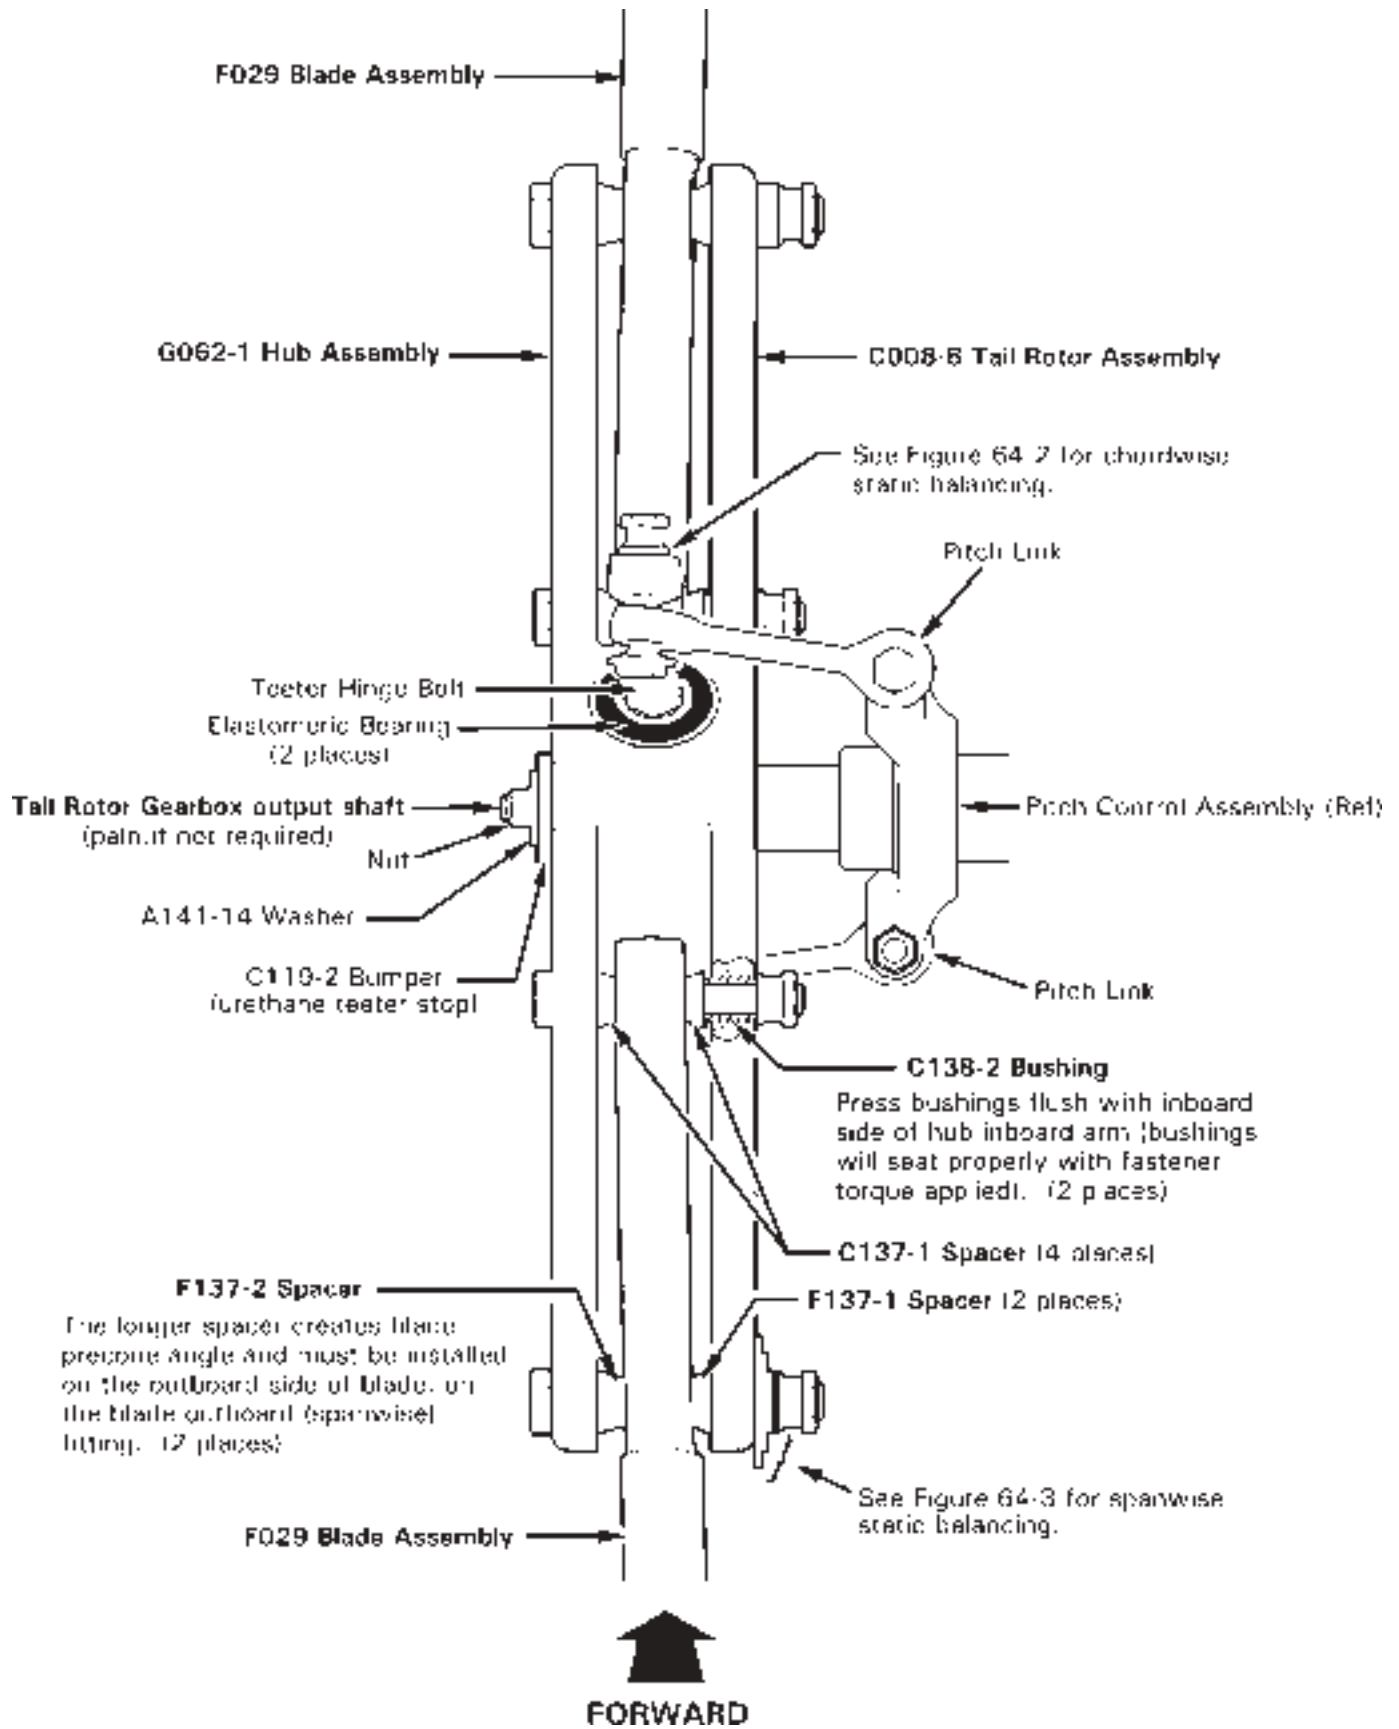

FIGURE 64-1 TAIL ROTOR INSTALLATION
1. Refer to Figure 64-1. Tag each pitch link with corresponding blade serial number for reinstallation. Remove hardware securing pitch links to tail rotor blades, noting hardware removed.
1. Refer to Figure 64-1. Position tail rotor assembly on tail rotor gearbox output shaft. Verify tail rotor is installed for clockwise rotation when viewed from left side of aircraft. Verify blades cone toward tail rotor gearbox.
2. Refer to Figure 64-1. Remove hardware securing F029 blade assemblies to G062-1 hub assembly. Remove blades, spacers, and hardware; do not remove C138-2 bushings unless required.
2. Refer to Figure 64-1. If removed, apply light coat of approved primer per § 20-70 to outer surface of C138-2 bushings; while primer is wet, press bushings flush with inboard side of hub inboard arm (bushings will seat properly with fastener torque applied).